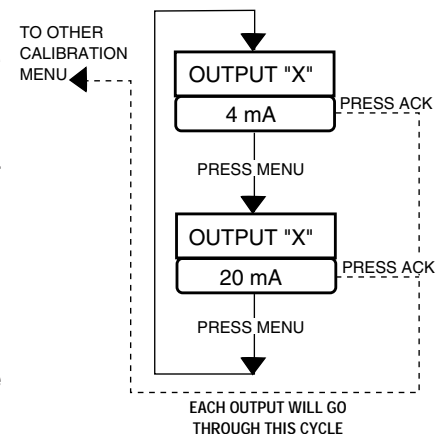

Figure A4.9
8. Press **MENU** to scroll to the output to be calibrated (see *Figure A4.9*). The 3rd display should read 4 mA.